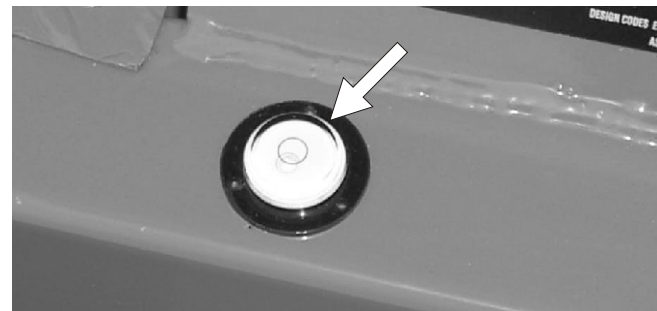

Figure 8.5
Lower the rear stabilisers and level the machine using the level bubble (see Figure 8.5) adjacent to the control levers.
5. Activate the rear stabilisers and level the machine using the level bubble (see Figure 8.5).